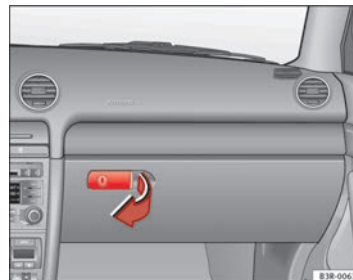

Fig. 125 Glove compartment
- Pull the handle on the lid in the direction indicated (arrow) ⇒ Fig. 125 and open the lid.